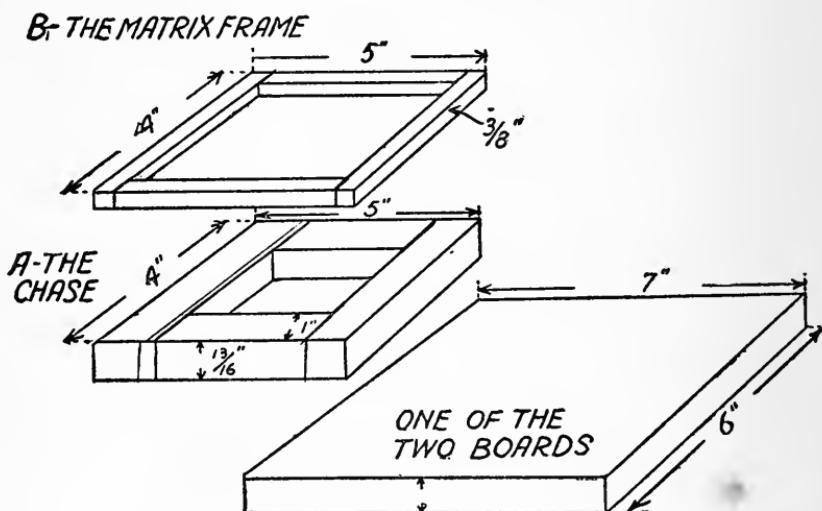

FIG. 74. THE MATRIX FRAME, CHASE AND BOARDS FOR MAKING RUBBER STAMPS
How to Make Rubber Stamps.—*The Materials Needed:*— To make rubber stamps you will need (1) one or more fonts of type; (2) a composing stick if you intend setting up more than one line; (3) a frame called a *chase*, 4 x 5 inches on the sides made of a strip of wood 1 inch wide and $1\frac{3}{16}$ inch high, which is the height of type from its feet to its shoulder; (4) another frame, called the *matrix frame*, made of a strip of wood 1 inch wide, $\frac{3}{8}$ inch thick and 4 x 5 inches on the sides. These two frames are shown at A and B in Fig. 74. (5) Two smooth boards 1 inch thick, 6 inches wide and 7 inches long; (6) a tooth-